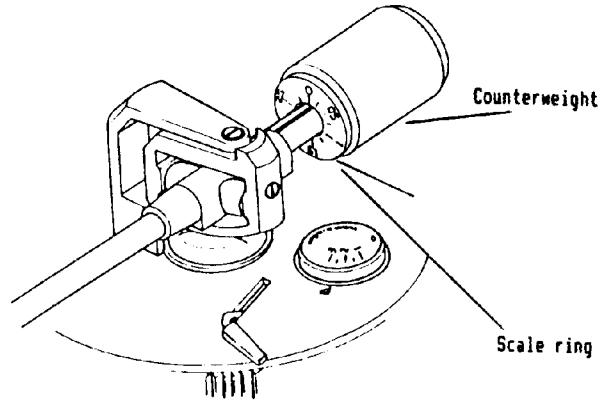

Fig. 4
- 6) Hold the counterweight at the adjusted position and turn the tracking force dial until the "0" mark is aligned with the index line on the tonearm shaft (Fig. 4).